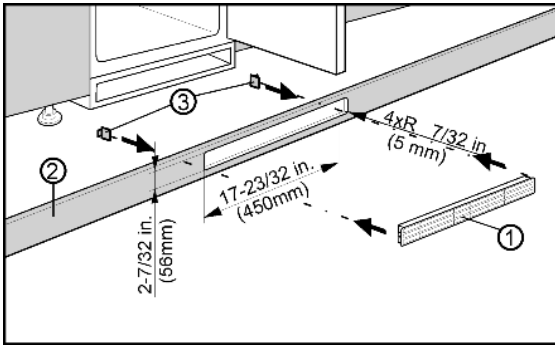

Fig. 6
Ventilation through the cabinet base at the bottom can be achieved by installing the provided ventilation grille *Fig. 6 (3)* or via a ventilation opening of at least 31 in2 (200 cm2). When using the provided ventilation grille *Fig. 6 (3)*, please proceed as follows:
- ▶ Insert ventilation grille *Fig. 6 (3)* into the cabinet base cut-out *Fig. 6 (1)*.
- ▶ From the back side, slide the snap-fits *Fig. 6 (2)* into the grille until the hooks make contact with the cabinet base.